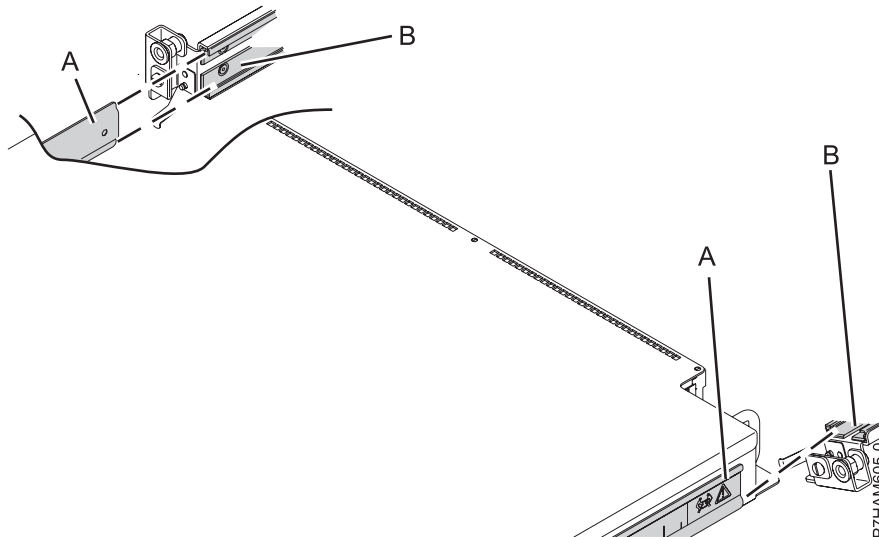

Figure 12. Reviewing the enclosure attachment to the rails
- a. Before attempting to mount the PCIe storage enclosure to the rails, review Figure 12 to observe how the chassis bracket guide (A) on the side of the enclosure fits and slides into the rail sheath (B) that matches its shape.
Note: In Figure 12, the right rail (B) is portrayed at an angle to show the location of the rail sheath. The actual rail is mounted in an upright position in the rack.